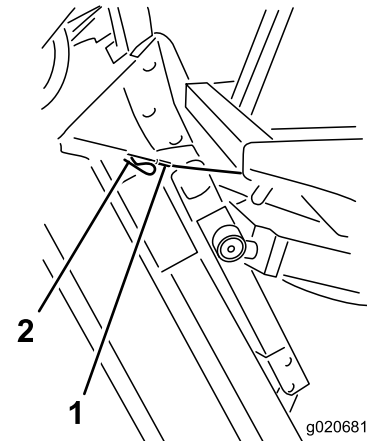

Figure 78
6. Hold the mower deck upright, fit the cable end over the pin on the mower deck lift arm, and secure it with the hairpin cotter (Figure 78).